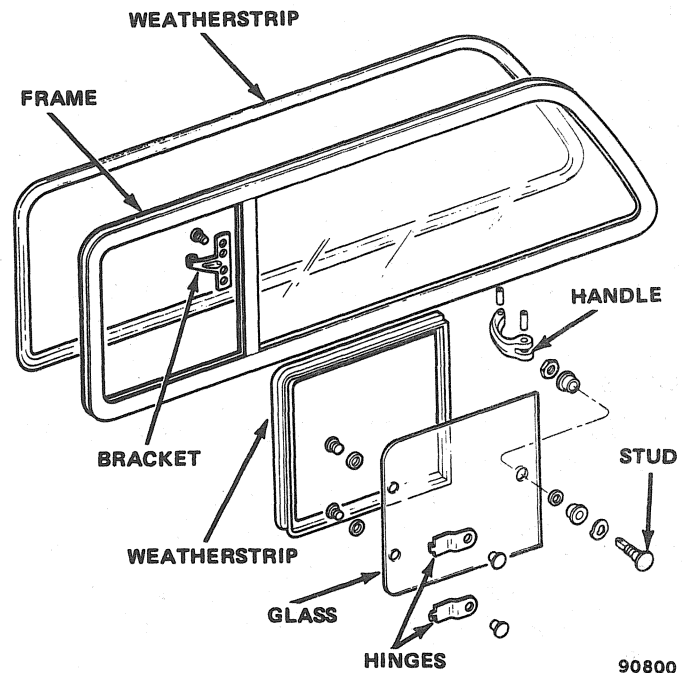

Fig. 3K-1 Rear Quarter Window—Cherokee Models
- (1) Remove handle-to-frame attaching screws (fig. 3K-1).
- (2) Remove glass hinge screws and washers.
- (3) Remove glass.